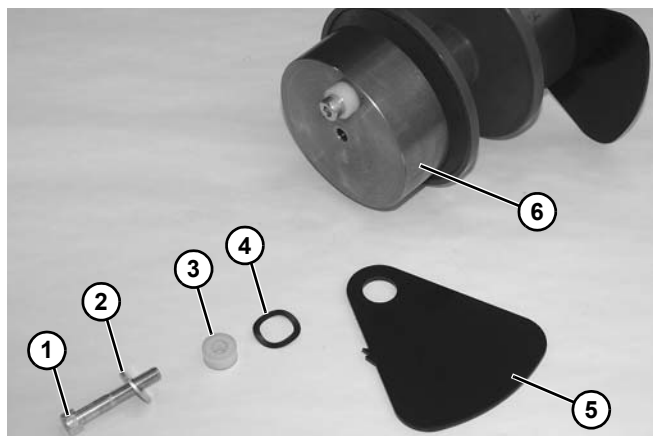

Figure 152
7. Remove bolt (**Figure 152, item 1**), washer (**Figure 152, item 2**), spacer (**Figure 152, item 3**), wave washer (**Figure 152, item 4**), and plate (**Figure 152, item 5**) from end of idler assembly (**Figure 152, item 6**).